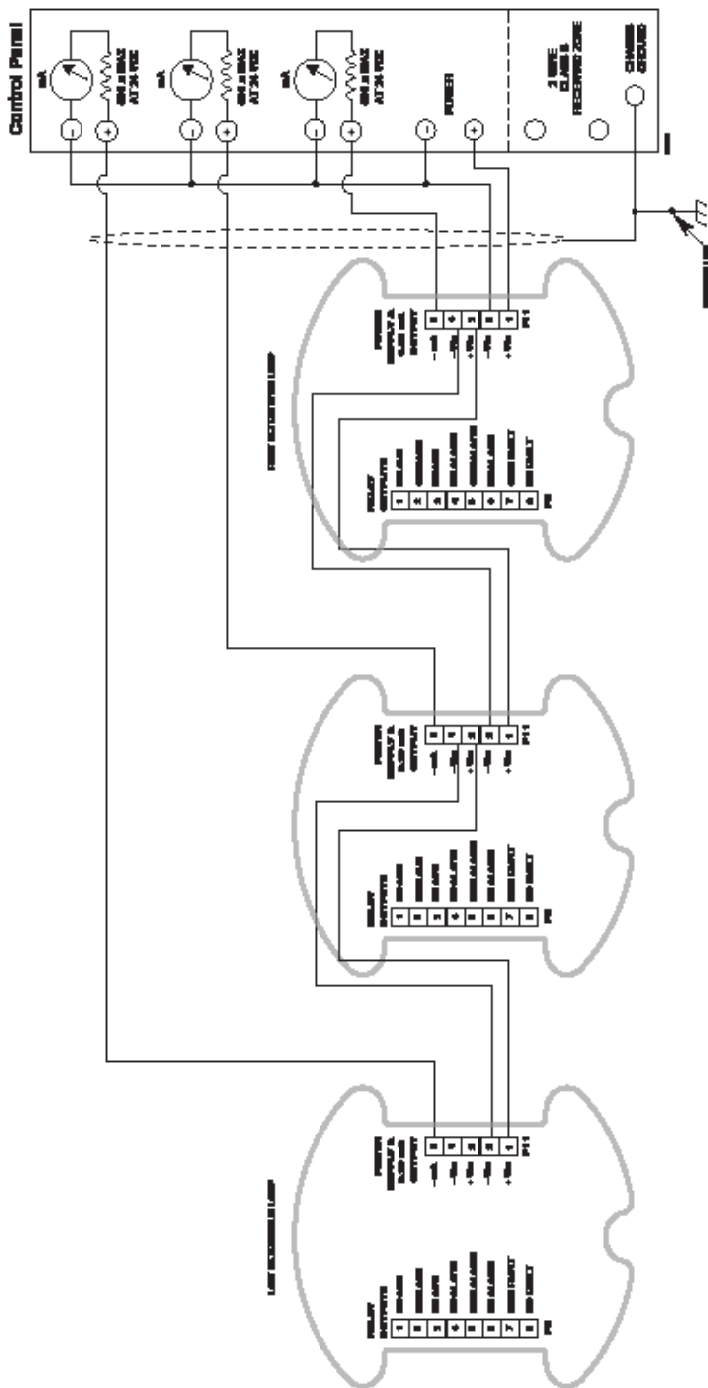

Figure 14—Multiple Detector Wiring (0-20 mA used, Relays not used)
- Figures 14 and 15 show wiring for multiple detector configurations.